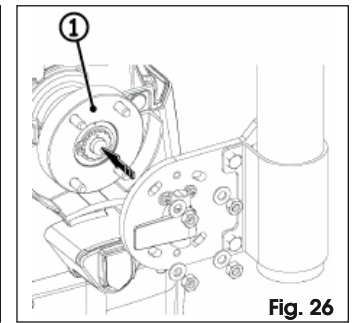

Fig. 26
6. Position all these parts on the drive disk (Fig.26 ref. ①) respecting - for leftward closing - the orientation shown in the figure.